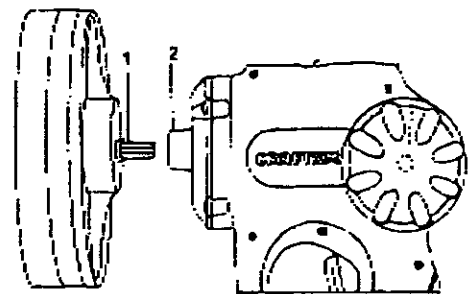

Fig. 3
1. To attach an accessory, simply push the bit (1) firmly into the chuck (2) (see Fig. 3).